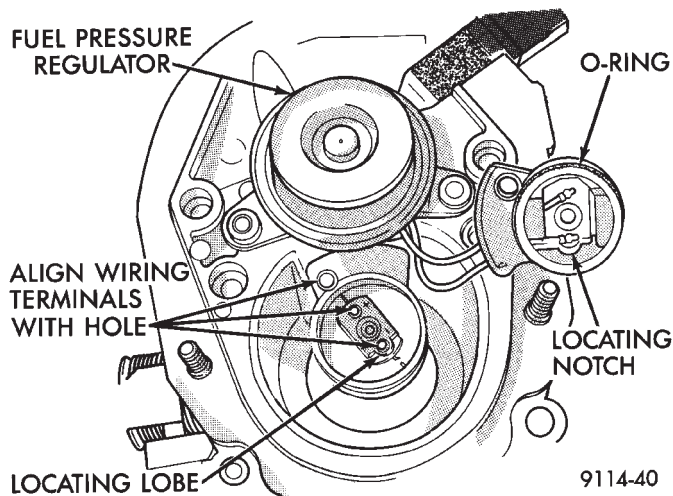

Fig. 10 Fuel Injector Installation
(1) Apply a light coating of clean engine oil on the O-rings.
(2) Place assembly in the pod. Align the injector wiring terminals with the injector cap fastener hole (Fig. 10).